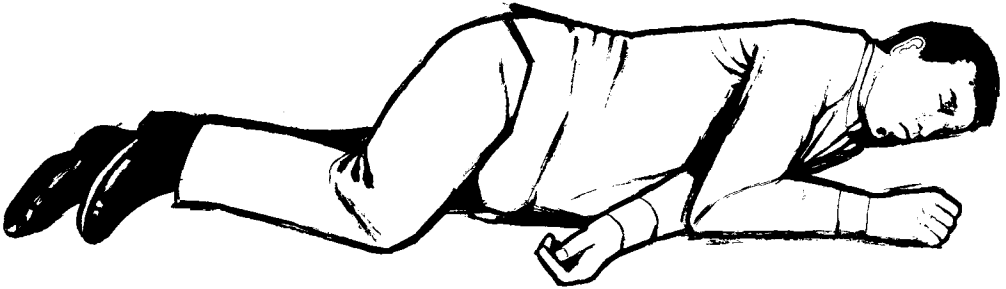

Fig. 2. The three quarters prone position
8. **Treatment.** Severe cases require hospitalisation and the medical officer (MO) should always be called as soon as possible:
- b. Lay the casualty on his back with the head low and turned to one side. If there is interference with breathing or the patient has vomited lay him in the three-quarters prone position (see Fig. 2).